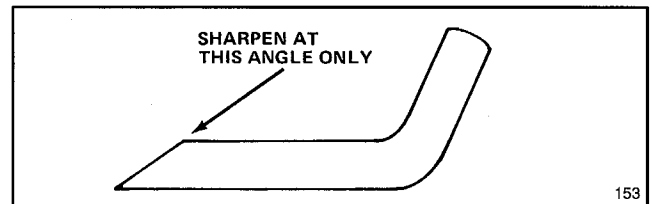

Figure 16
6. **SHARPENING BLADE**—Using a file, sharpen top side of blade and maintain original cutting angle (Fig. 16). The blade will remain balanced if same amount of material is removed from both cutting edges.